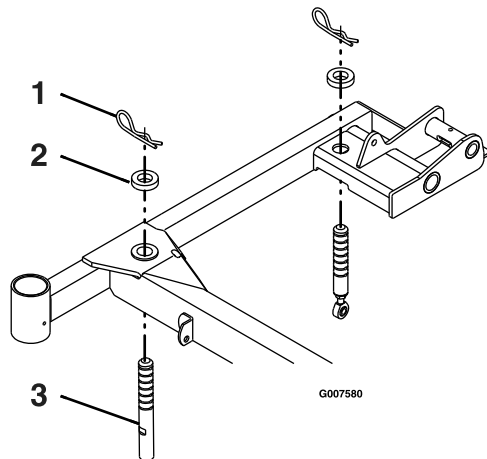

Figure 63
3. Verify that all hairpin cotters are in the 7.62 cm (3 inch) mower-deck-height holes with the spacers under the hairpin cotters (Figure 63).
inches) at the front of the deck and 8.26 cm (3 1/4 inches) at the rear of the deck (Figure 63).